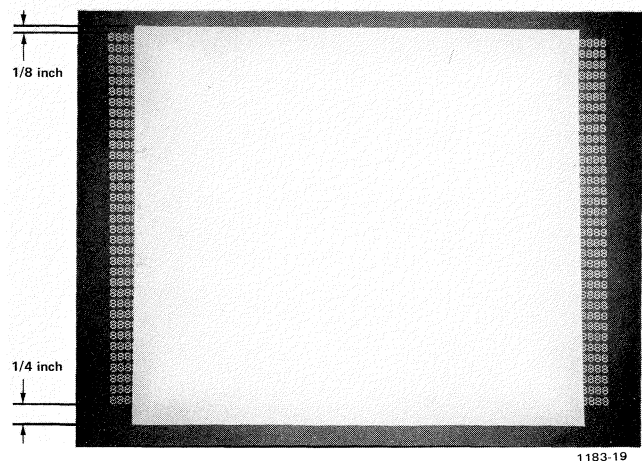

Fig. 4-14. HCX AMP Adjustment Display.
f. Check Hard Copy Y amplitude. The stored scan bar should extend approximately 1/4 inch below and 1/8 inch above the stored 8s, as in Fig. 4-14.